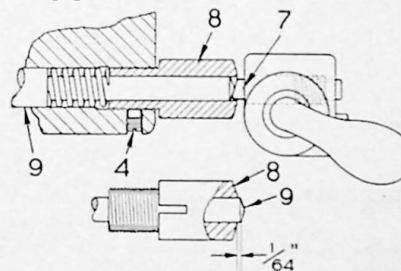

FIG. 30 Power Feed Knock-off Adjustment.
1. Loosen set screw (4). (see Fig. 30).
2. Advance turret slide toward spindle by rotating the turnstile by hand and bring it to a solid stop. This will push feed knockout rod (9) to its extreme "out" position.
3. Adjust bushing (8) until rod (9) protrudes approximately  $1/64$ " as shown in Fig. 30.
5. It should now be possible to advance the slide  $1/64$ " more by hand. If this amount is more or less than the above, adjust bushing (8) until corrected, being mindful of the caution note below.
**CAUTION**—Extreme care must be used not to engage power feed until steps 2 and 3 have been carried out, for if the rod (9) does not project, it cannot knock off the feed and the power feed will pull up to a dead stop with its full feeding pressure.